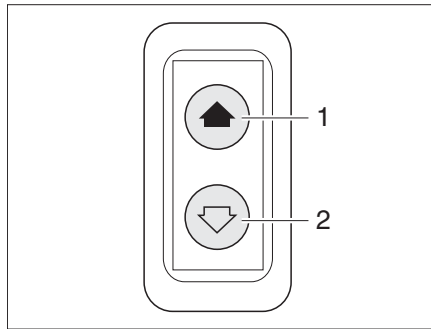

Fig. 23 Switch for electrical window winder
There is an electrical window winder (Fig. 23) on the driver's side of the vehicle.
- Press lower part of the switch (Fig. 23,2).
- Press upper part of the switch (Fig. 23,1).